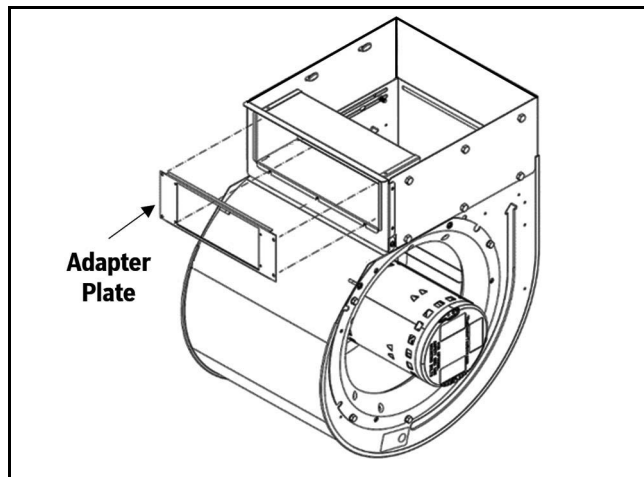

Fig. 12 Adapter Plate
3. Install the adapter plate, if required, to the heater collar using four screws. (→Refer to Fig. 12.)